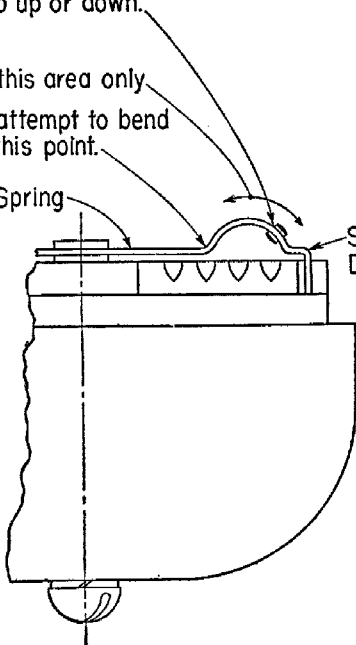

Fig. 1
1.02 Paragraphs 3.02 and 5.05 are rewritten and Figures 1 and 2 are to be disregarded insofar as they refer to bending the stop tab of the detent spring to allow the adjusting wheel to silence the ringer.
4.01 If ringer cut-off feature is to be provided, the stop adjacent to the detent spring on the ringer volume control must be bent away so that it does not engage the stop on the rim of the ringer frame immediately behind the movable gong. This allows the cam section of the movable gong mounting to engage the stop rod and prevent movement of the armature and clapper (see Figs. 1, 2a, and 2b). Instruct subscriber to turn wheel as far to the right (away from loud position) as it will go to provide ringer cut-off.